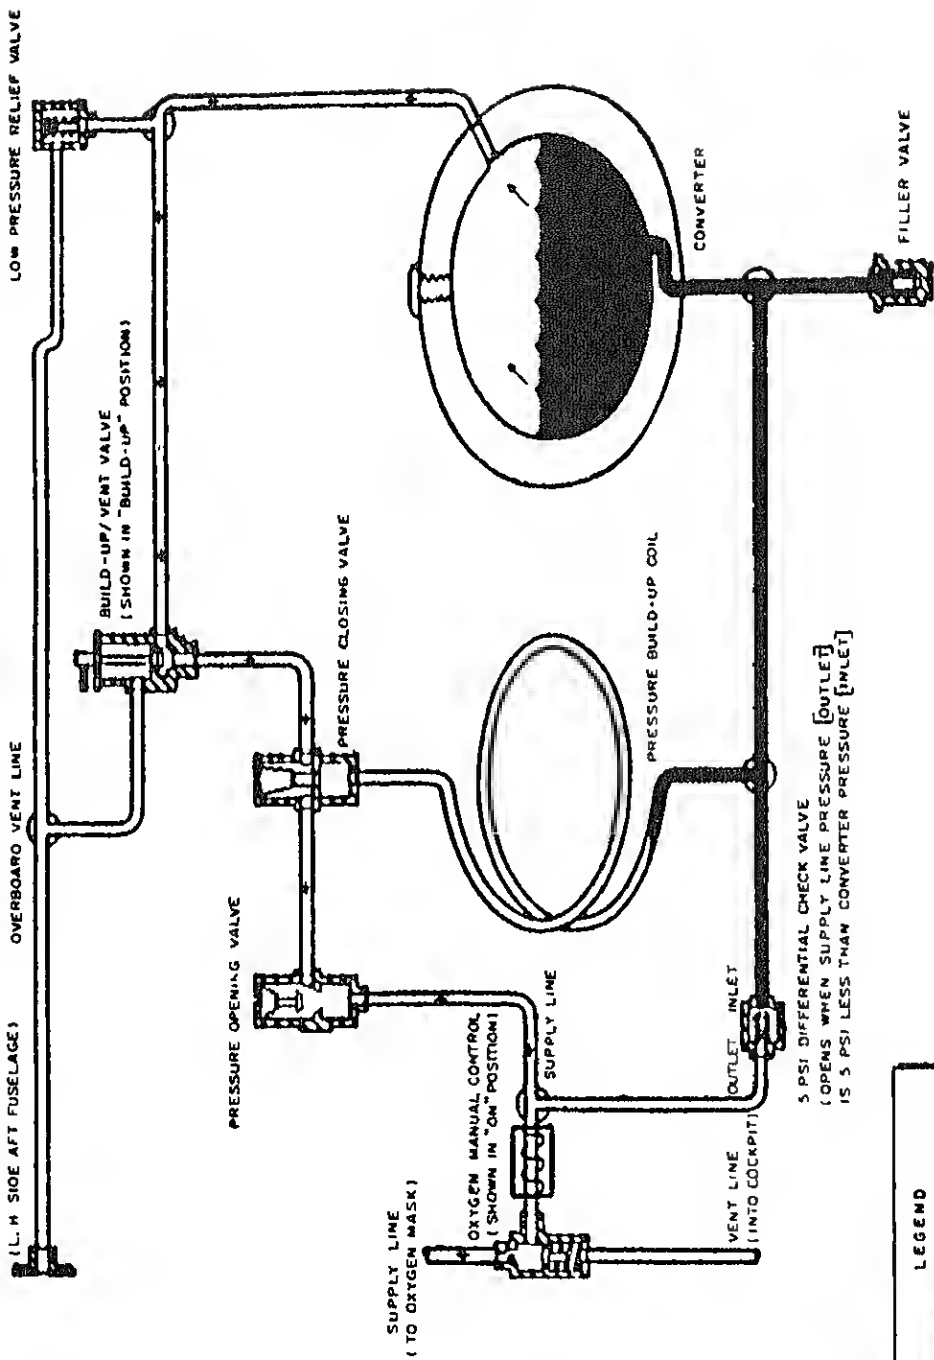

FIGURE 3.2-5--Liquid Oxygen Converter Operation (Economy Mode).
a. Top (economy mode). (see figure 3.2-5)
- (1) A limited demand upon the system allows the _____ to supply gaseous oxygen directly to the _____ as a result of drawing off the gaseous oxygen within the top of the converter.
- (2) Continued demand _____ supply line pressure 80 plus or minus 1 p.s.i., causing the pressure opening valve to close.